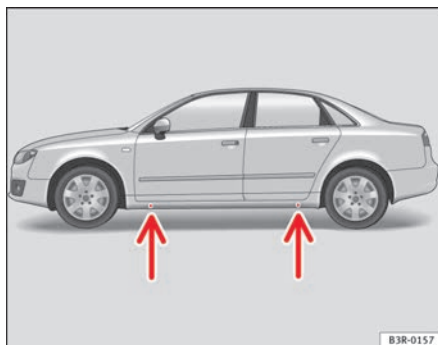

Fig. 179 Changing the wheel: The jacking points
- Position the vehicle jack under the door sill at the **jacking point** closest to the wheel being changed ⇒ fig. 179 -arrows-.
Recesses at the front and rear of the door sills mark the jacking points ⇒ fig. 179 -arrows-. There is only *one* jacking point for each wheel. Do not fit the jack anywhere else.